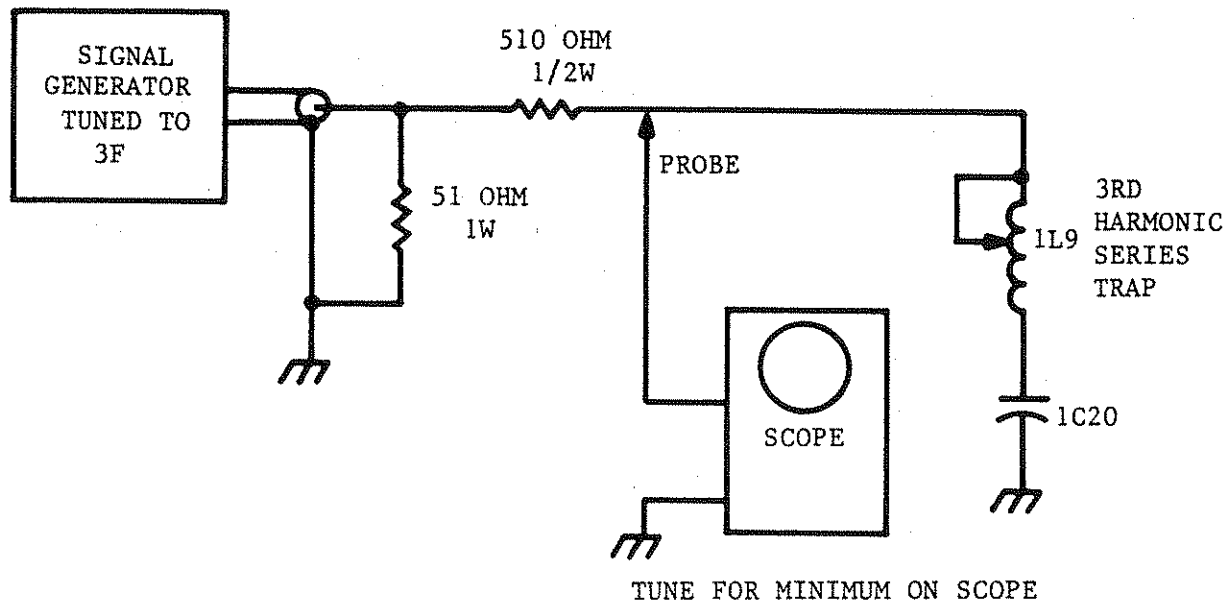

Figure 5-2. Set-Up for 1L9 Test
- c. Connect the signal generator, tuned to three times the operating frequency, and the oscilloscope as shown in figure 5-2.